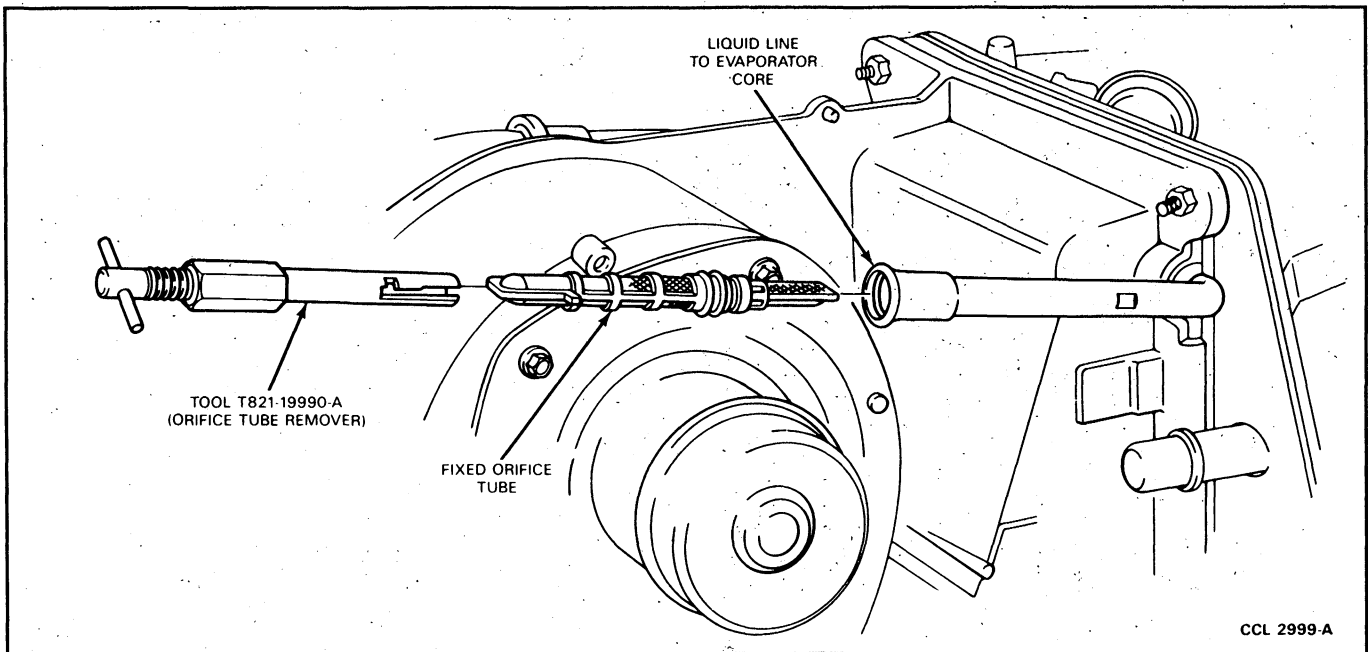

FIG. 31 Fixed Orifice Tube Removal
The fixed orifice tube is constructed with a plastic body, two screens and a small brass tube down the center of the orifice body. Two O-rings are around the orifice tube body to seal against leakage around the body (Fig. 31).
4. Engage Fixed Orifice Tube Installer T83L-19990-A (Motorcraft YT-1008) or equivalent with the two tangs on the fixed orifice tube (Fig. 31).
2. Place fixed orifice tube in Fixed Orifice Tube Remover/Replacer T83L-19990-A or equivalent, and insert fixed orifice tube into evaporator core tube until orifice is seated at the stop (Fig. 31).